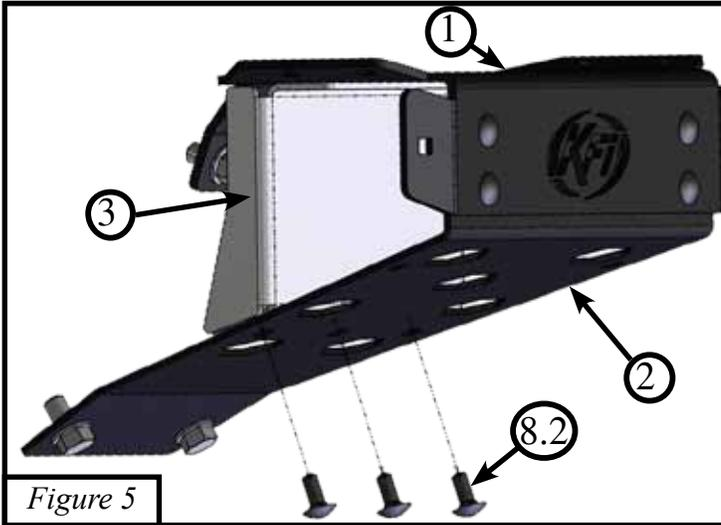

Figure 5
- Next slip the support (3) in front of the plastic fascia (A) and between the winch mount (1) and skid plate (2) and fasten with three 5/16" bolts and nuts (8.2 & 8.3) through the bottom holes as shown in Figure 5